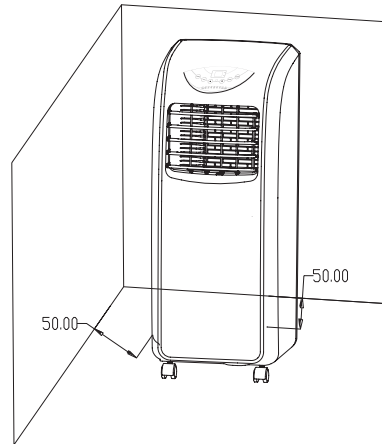

fig. 9
- 1 Move the unit with the hose attached to the window so that it is at least 50 cm from the walls or other objects (see Figure 9).